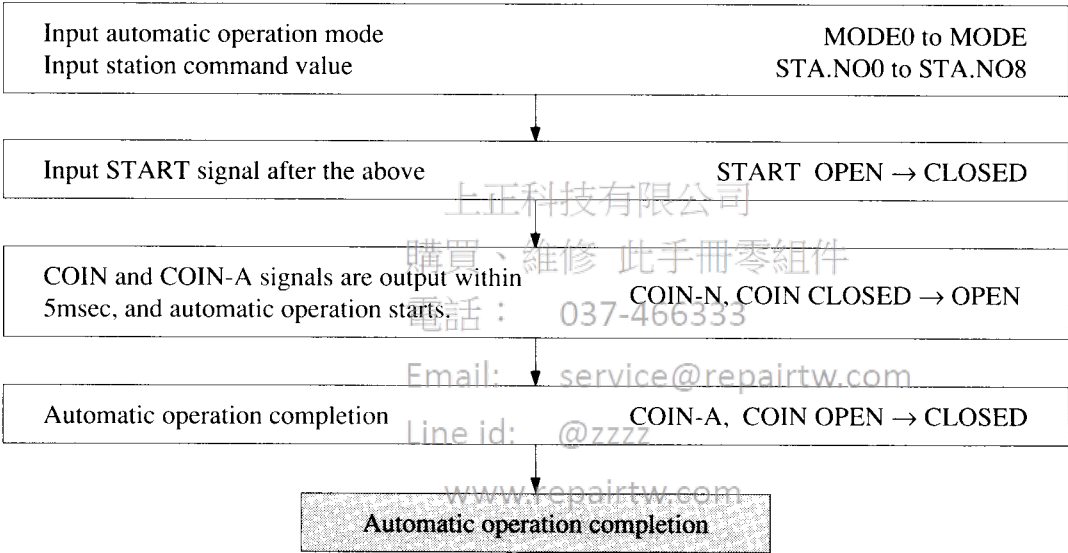

Fig. 4.8 Sequence of Automatic Operation
- Fig. 4.8 shows the sequence of automatic operation.